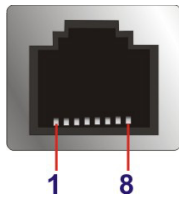

Figure 3-17: RJ-45 RS-232 Serial Port Connector
Step 2: Insert the serial connector. Insert the DB-9 connector of a serial device into the DB-9 connector on the external peripheral interface. See **Figure 3-17**.